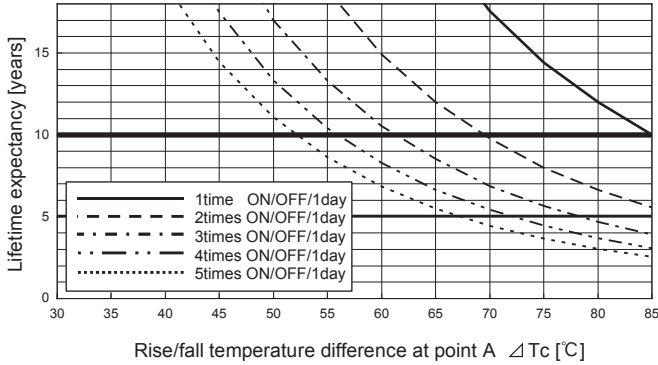

Fig.11.5 Lifetime expectancy against rise/fall temperature difference
■ Product lifetime expectancy depends on case temperature difference ( $\Delta T_c$ ) and number of cycling in a day is shown in Fig.11.5 (It is calculated based on our accelerated process test result.)
■ The warranty period is basically 10 years, however it depends on the lifetime expectancy which is shown in Fig.11.5 if it is less than 10 years.